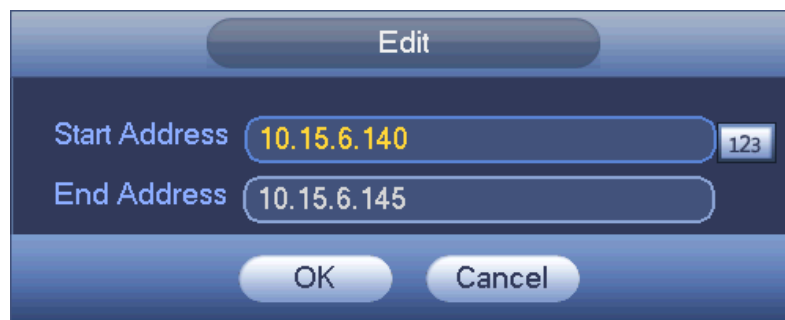

Figure 4-131
- Edit: Click it to edit start address and end address. See Figure 4-131. System can check the IP address validity after the edit operation and implement IPv6 optimization.